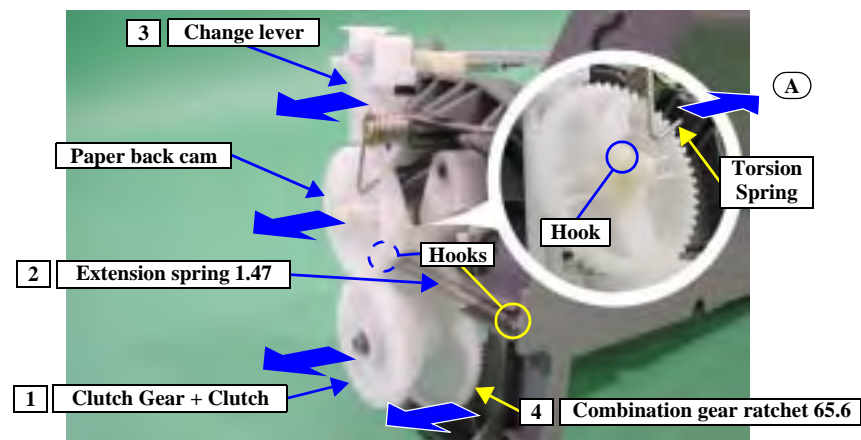

Figure 4-50. ASF Unit Disassembly 1
3. Follow the order shown in Figure 4-50 to remove the following from the ASF Unit: (1) Clutch Gear and Clutch. (2) Extension Spring 1.47. (3) Change Lever. (4) Combination Gear Ratchet 65.6.